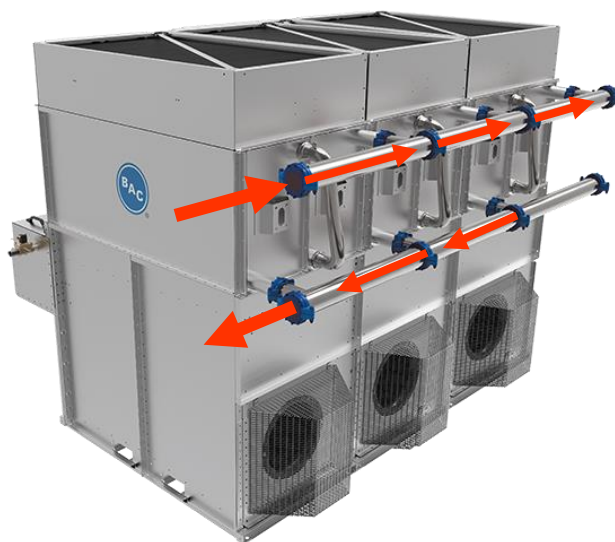

Figure 1. Fluid Inlet & Outlet Reference
1. Verify the equipment is properly piped. Fluid needs to enter the top manifold (if included) and exit the bottom manifold (if included) as shown below in Figure 1.